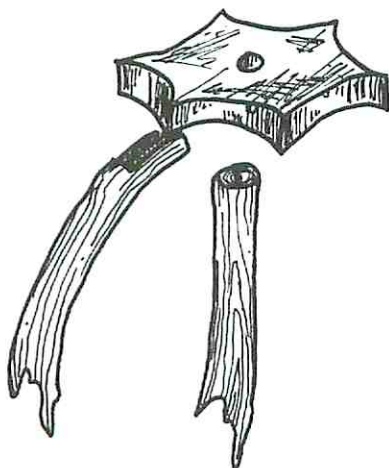

Figure 1
Next, gather your umbrella pieces (D). You will need six of them for the umbrella's ribs. I suggest you flatten these six pieces at one end using a sander, as in Fig. 1. This way, you will create a snugger fit between the ribs and the cog-shaped center piece. Screw the underside of each rib to the center piece. At this stage, your assembly should look rather spiderlike.